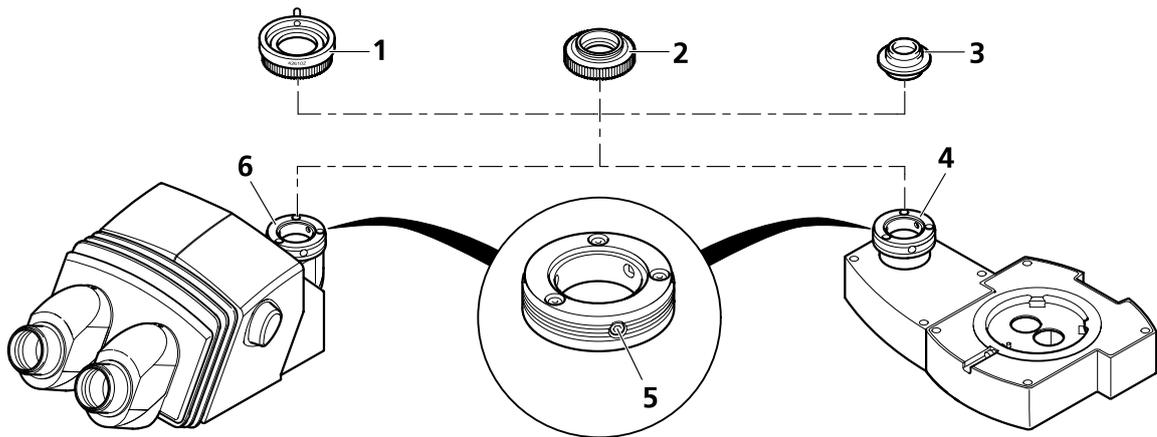

Fig. 17 Using camera adapters
- Attach the camera adapter "60N" (Fig. 17/1; 2) to the camera.
Please note: The three grub screws (SW 3) (Fig. 17/5) at the camera port must project neither into the external thread nor into the inner aperture.
- Put the pre-assembled unit onto the camera port (Fig. 17/4 or 6), align it and fasten the sleeve nut of the adapter (Fig. 17/1 or 2) hand-tight.
- Attach the camera adapter "60" (Fig. 17/3) to the camera.
- Put the pre-assembled unit onto the camera port (Fig. 17/4 or 6). Take care that the three grub screws (Fig. 17/5) do not project too far into the inner aperture; unscrew them slightly, if necessary.
- Turn the three grub screws (SW 3) on the tube (Fig. 17/5) counterclockwise until the adapter is firmly seated.